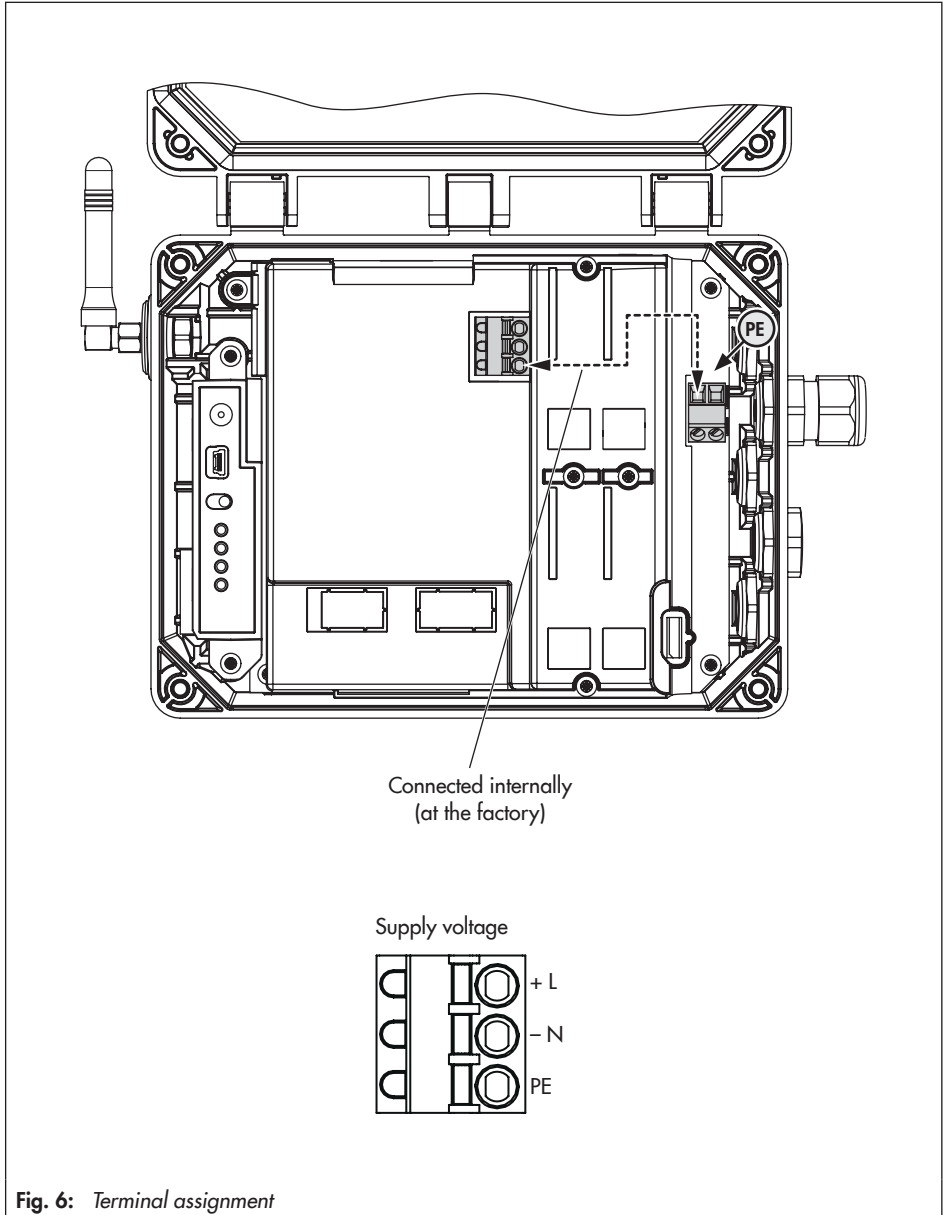

Fig. 6: Terminal assignment
- Connect the wiring as shown in Fig. 6.
- Route the grounding connection (PE) to the corresponding terminal.